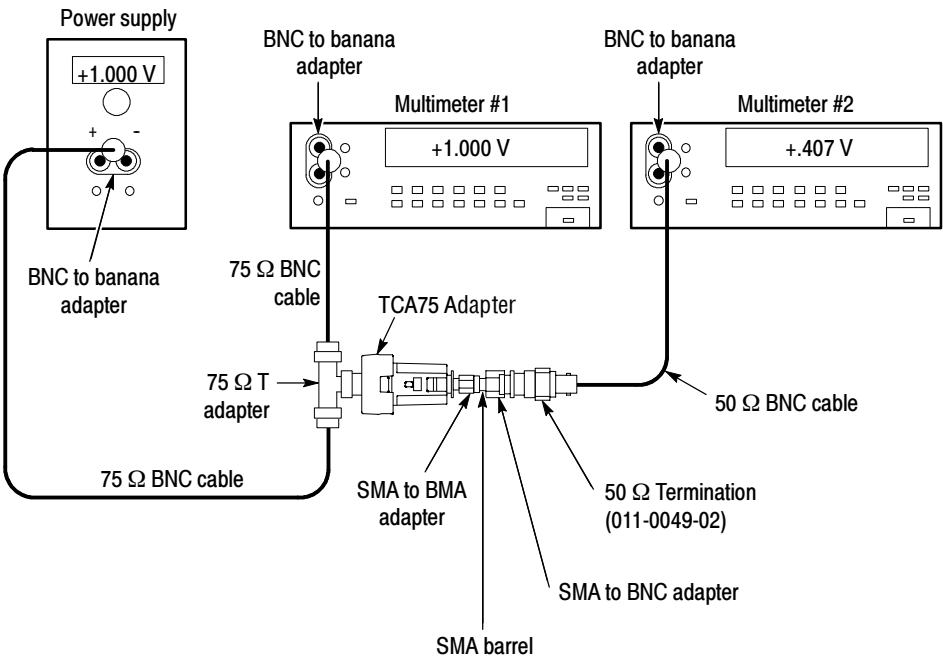

Figure 6: Measuring the attenuation accuracy
2. Connect the equipment as shown in Figure 6.